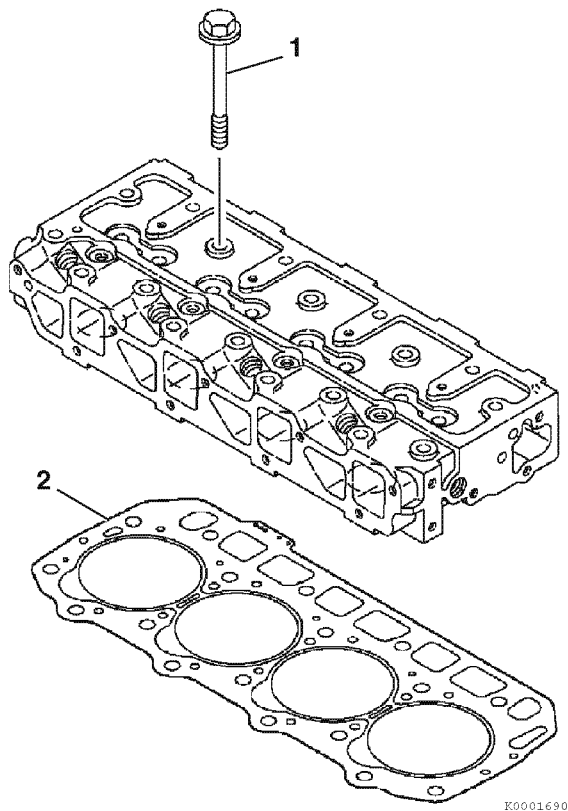

Figure 6-11
2. Remove the cylinder head bolts (1, **Figure 6-11**).
3. Lift the cylinder head away from the cylinder block. Discard the cylinder head gasket (2, **Figure 6-11**). Position the cylinder head on the work bench to prevent damage to the combustion surface.